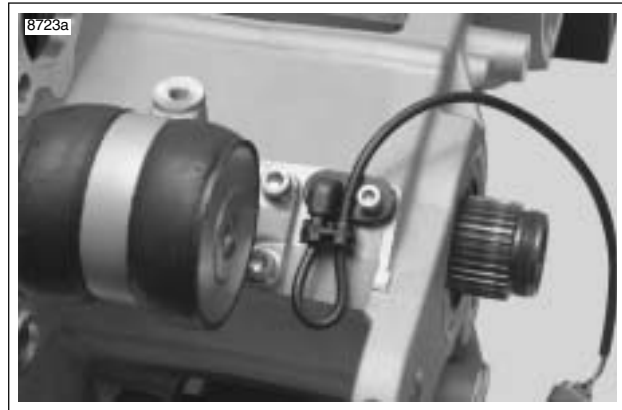

Figure 3-133. Rear Isolator Assembly
7. See Figure 3-133. Remove rear isolator assembly by removing the forward two fasteners first and then the two rear fasteners (re-install with new fasteners).